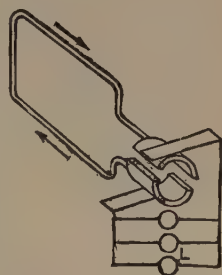

FIG. 196. — A split-ring or segmented commutator.
e.m.f. reverses, then one brush will always be positive and the other negative. Current will always flow *out* from one brush and *in* at the other, as in Fig. 196; thus, although an alternating e.m.f. is generated in the loop, only a direct current passes through the external circuit. Direct-current generators always have the split-ring commutator.